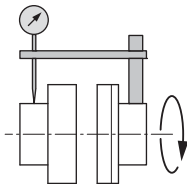

Fig. 11: Checking the radial alignment with a comparator
- Firmly clamp a dial gauge to one of the couplings or to the shaft (see Fig. 11). The piston of the dial gauge must lie against the crown of the other half-coupling (see Fig. 11).